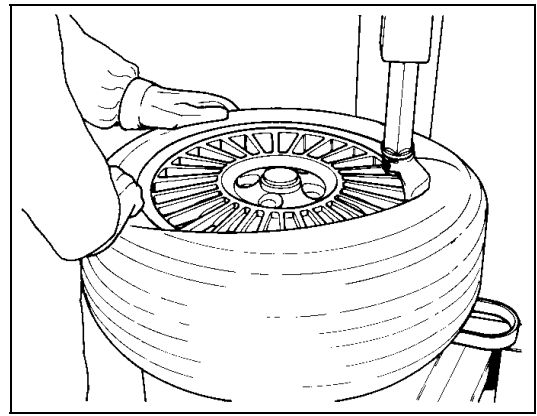

Fig.20
G. Rotate the turntable clockwise and at the same time carefully push down on the tire sidewall to move the bead into the drop center of the rim (Fig.20).